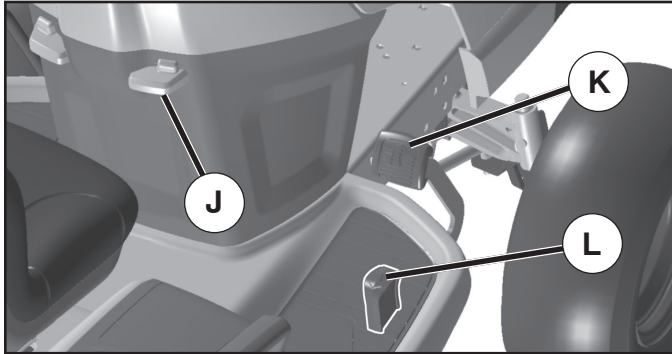

Fig. 7
(See Fig. 7)
- Slowly depress forward (K) or reverse (L) drive pedal to begin movement. Ground speed increases the further down the pedal is depressed.
## TO USE CRUISE CONTROL (J) (See Fig. 7)